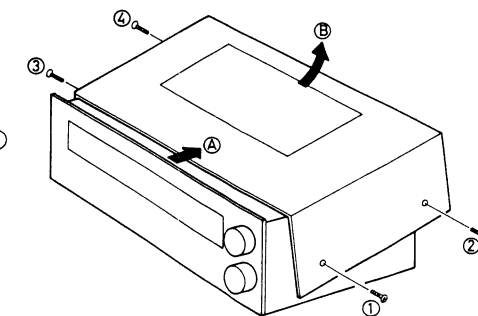

Fig. 8
2. Remove the four cabinet mounting screws (nos ①~④ screws in fig. 8).
3. Sliding it toward Ⓐ direction and lifting it upward Ⓑ direction as shown in fig. 8.